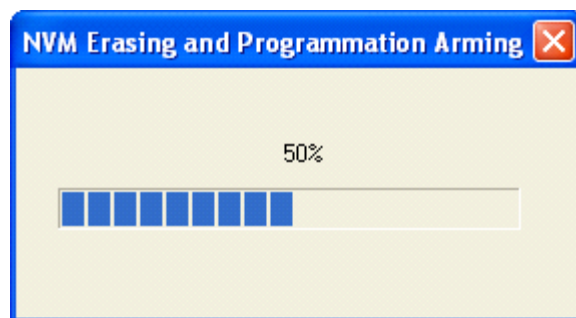

Figure A-6. Erasing and Programming window
3. The pop-up in Figure A-6 opens to erase and program the built image to JM128 Flash.